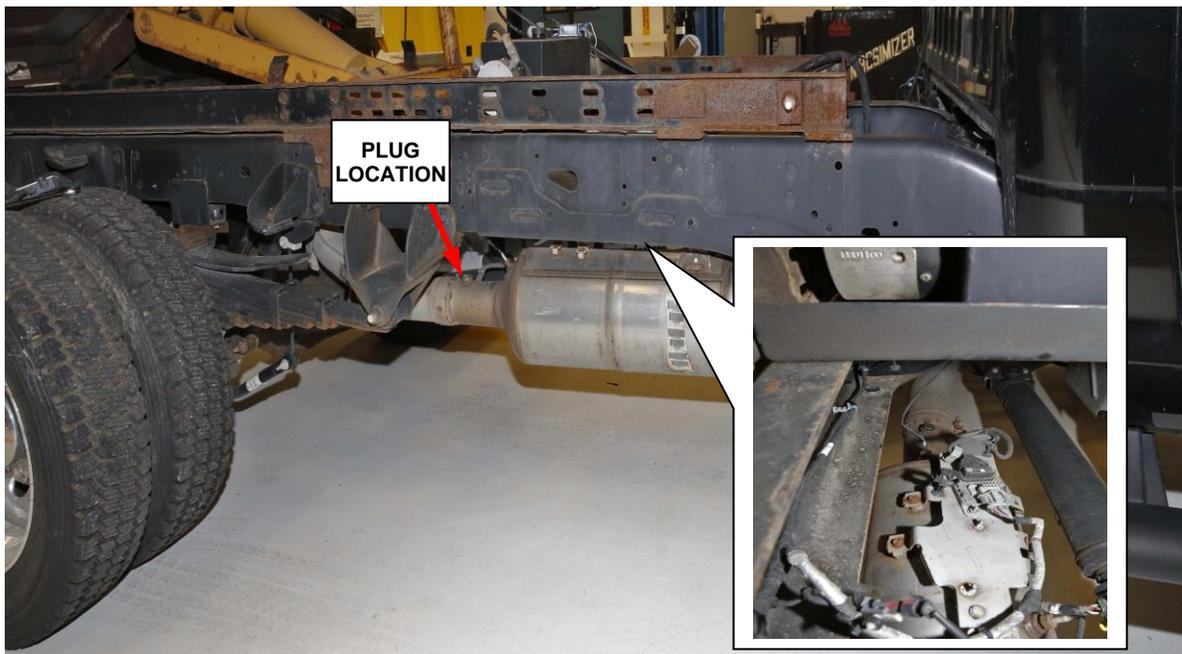

Figure 1 – Exhaust Plug
4. Remove the plug from the exhaust pipe (Figure 1).